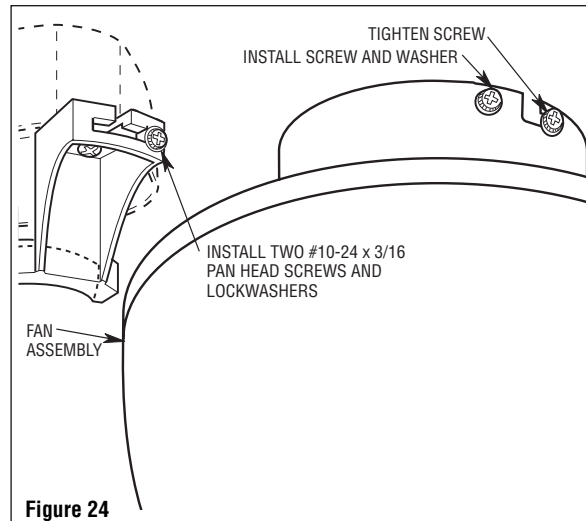

Figure 24
1. Partially install two #10-24x3/16 pan head screws and lock washers (supplied) into the hanger bracket as shown (Figure 24). Observe the ceiling cover to determine exact installation location of both screws. The protruding screws will be used to engage the ceiling cover.
2. Lift the fan assembly up to the hanger bracket. Engage the slots in the ceiling cover with the loosened screws in the bracket and turn the cover counterclockwise (Figure 24). Be sure that the lockwashers are between the screw heads and the ceiling cover. Immediately tighten both screws to lock the fan onto the hanger bracket.